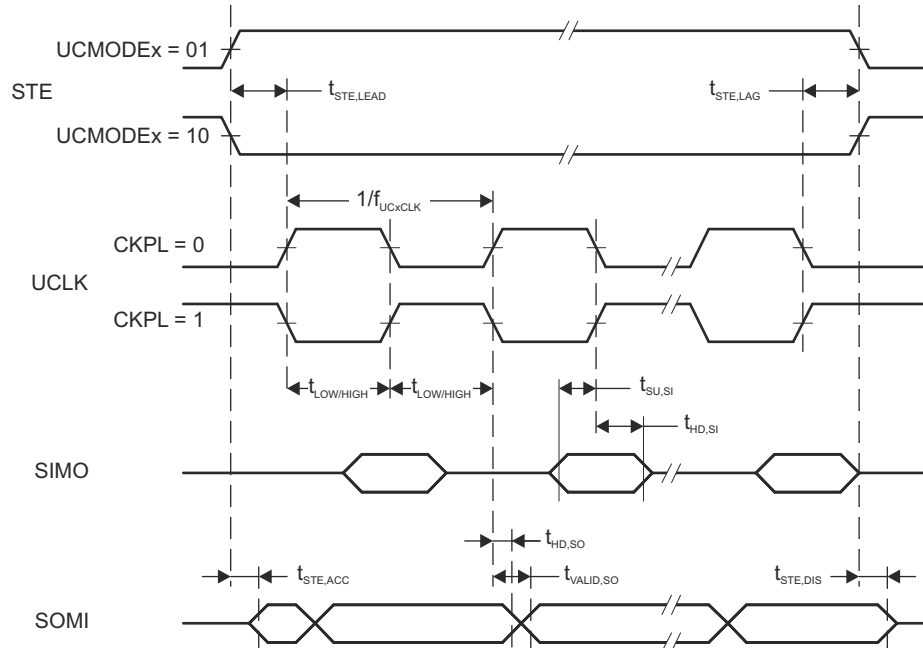
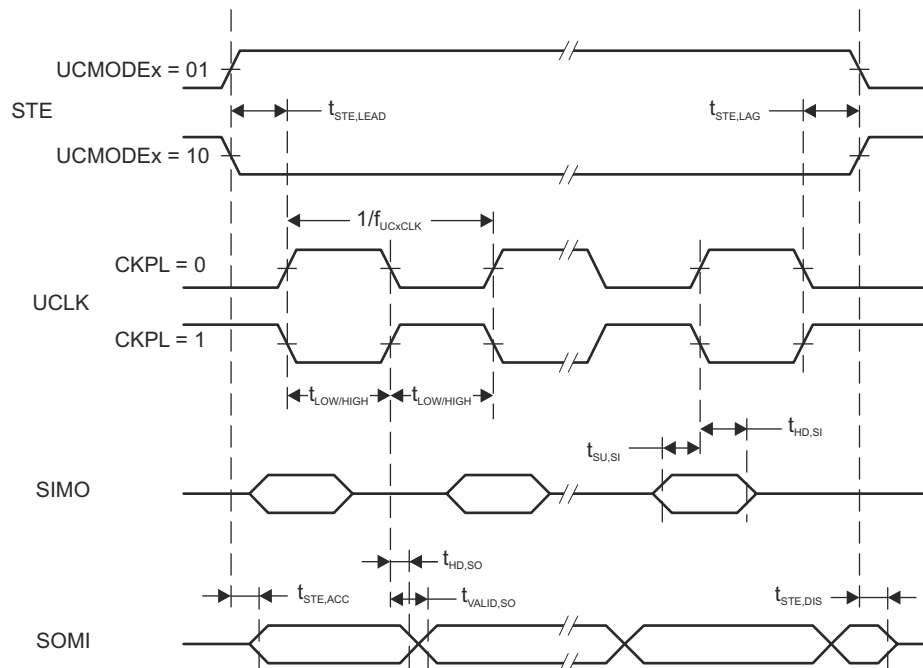

Figure 8-15. SPI Slave Mode, CKPH = 0
Figure 8-16. SPI Slave Mode, CKPH = 1
(2) Specifies the time to drive the next valid data to the SOMI output after the output changing UCLK clock edge. See the timing diagrams in Figure 8-15 and Figure 8-16.
(3) Specifies how long data on the SOMI output is valid after the output changing UCLK clock edge. Refer to the timing diagrams in Figure 8-15 and Figure 8-16.